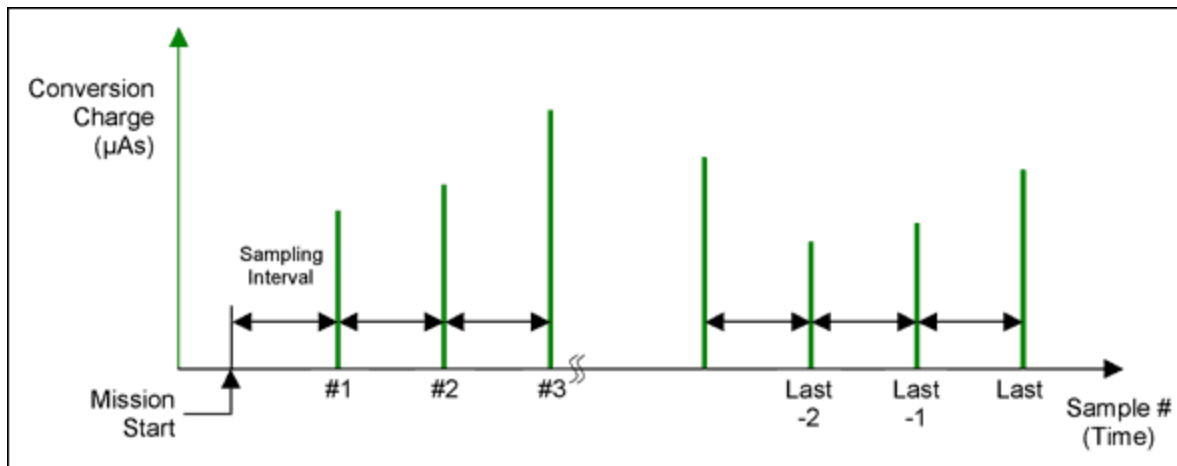

Figure 3. Conversion charge at sampling point.
- Look up the temperature conversion charge at that temperature (**Figure 3**), and add it to the charge consumed from the DC load during